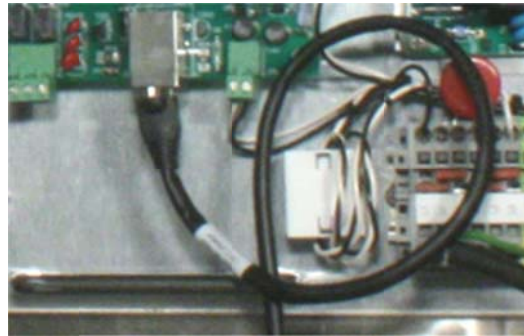

Figure 2-3 – Communication Cable Install
6. Plug the cable into PCB1 J2 and position the cable, providing a small amount of slack inside the cabinet to reduce stress on connector J2. Coil excess cable equally between enclosures See Figure 2-3. Do not cut and splice to remove excess cable.